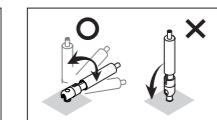

Fig.9
- Do not use our universal type products in the wrong direction which do not rotate. (Fig.9)